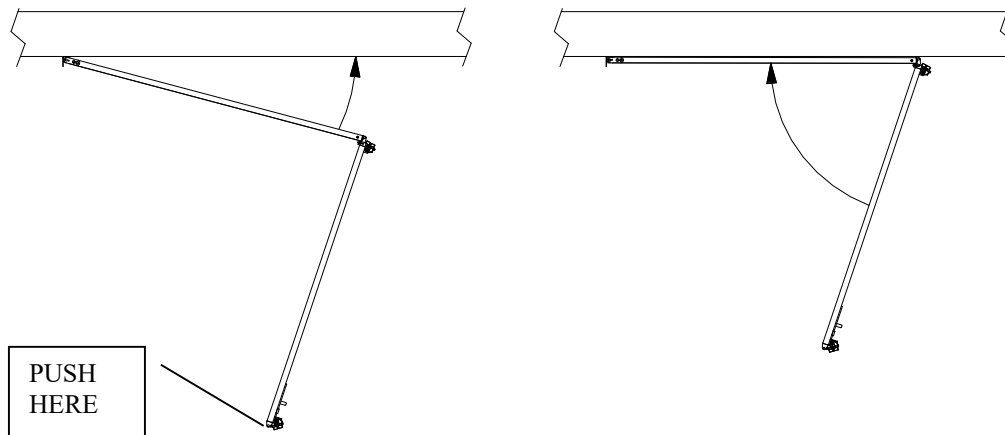

Figure 8
3. Position the gate and panel against the wall using the opposite edge of the gate to push the panel to the wall, continue swinging until the gate is against the wall. See Figure 8.